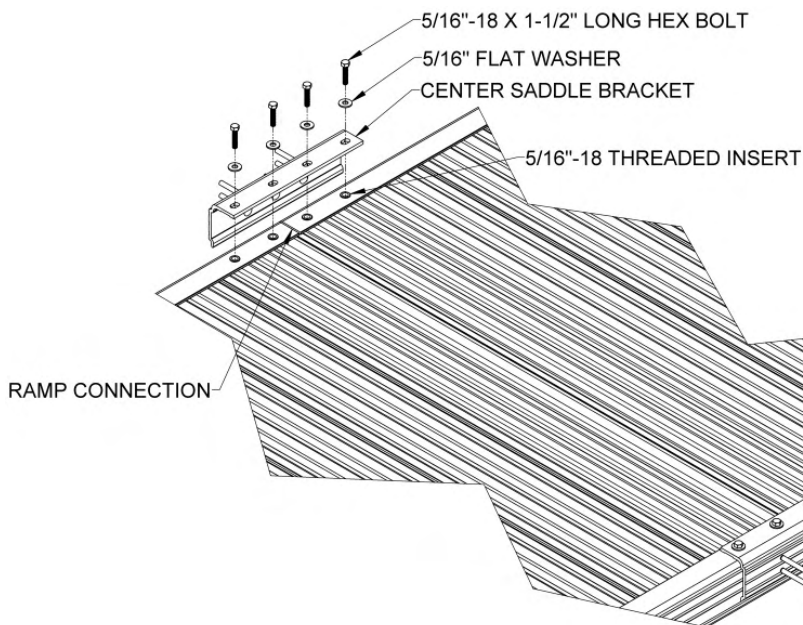

FIG. 3.1
- 3.1.2. Butt the sections together end-to-end and ensure there is no gap, then position the two center saddle brackets, included in the PRRC (CONNECTOR – RAMP TO RAMP), over the threaded inserts at the end of each ramp section (FIG. 3.1).